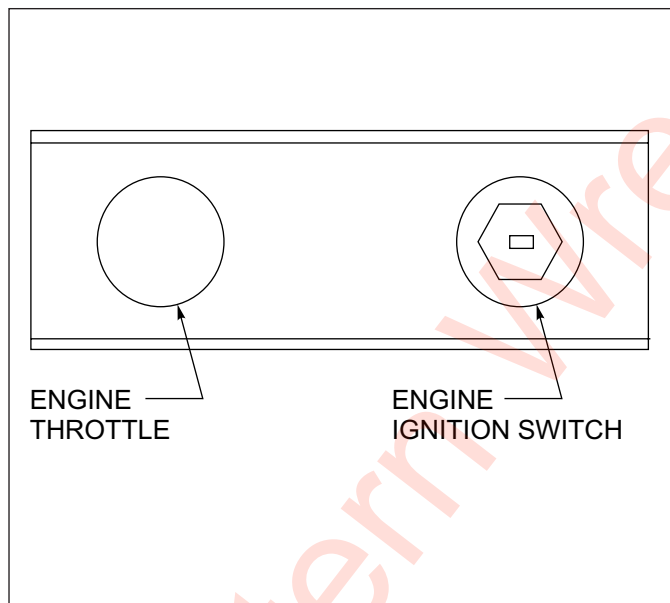

Figure 3-12: Engine Control Panel
1. The Engine Ignition Switch (See Figure 3-12) is located on the engine control panel on the driver's side of the semitrailer. Use the key to start and stop the Hydraulic Power Supply Engine. The Engine Ignition switch has three positions (See Table 3-6.)
2. The Hydraulic Power Supply Engine throttle is located on the driver's side of the semitrailer. The Engine Throttle controls the speed at which the engine operates (See Figure 3-12.) It is a variable position control: